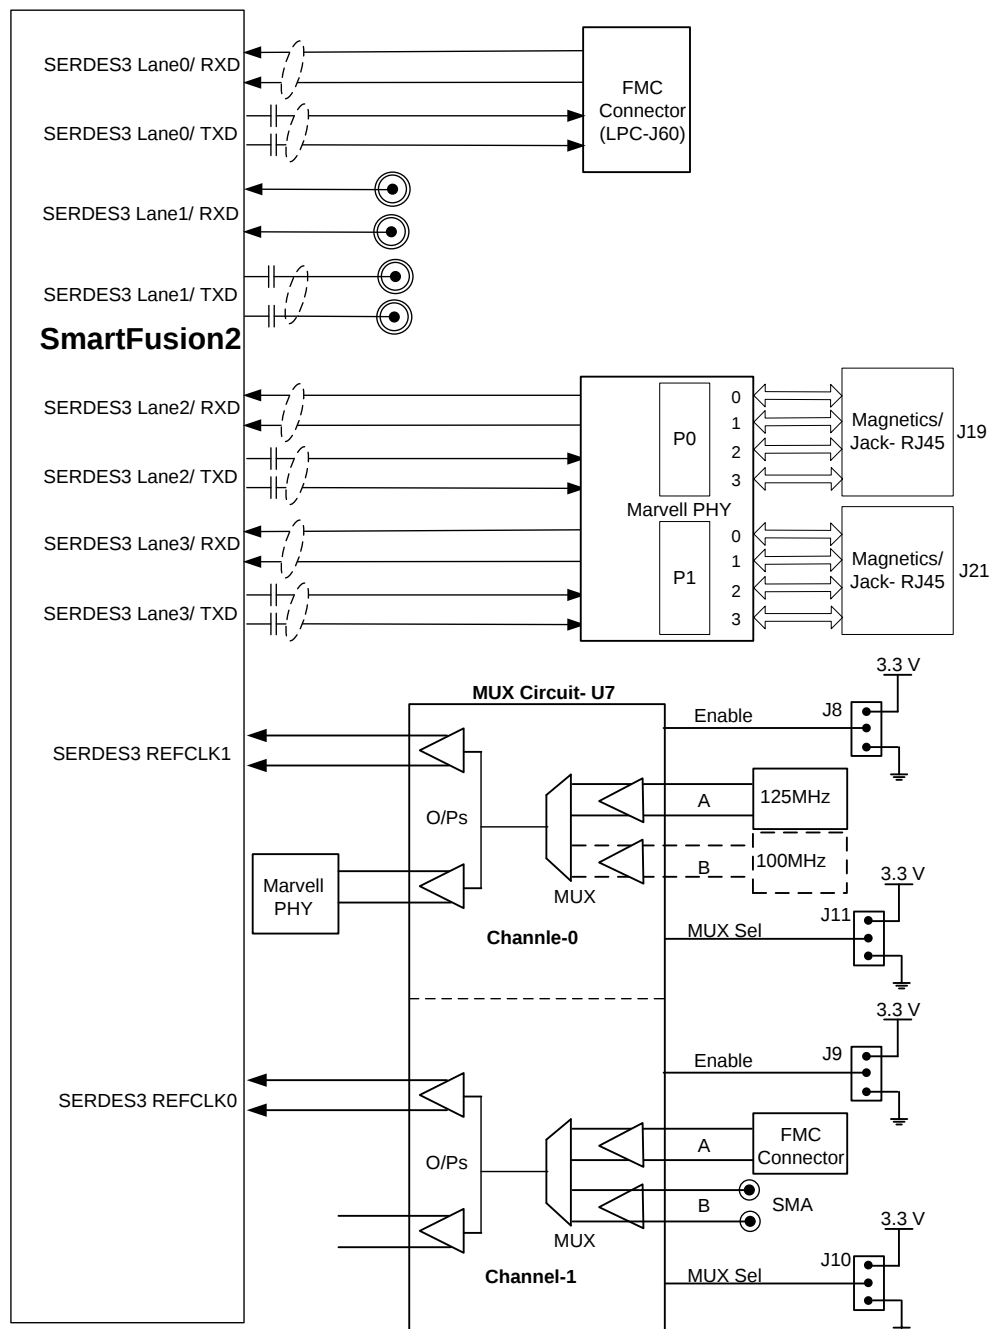

Figure 10 · SERDES3 Interface
- SERDES3 Reference clock 1 is connected from 125 MHz or 100 MHz options through MUX. Refer to Figure 10.